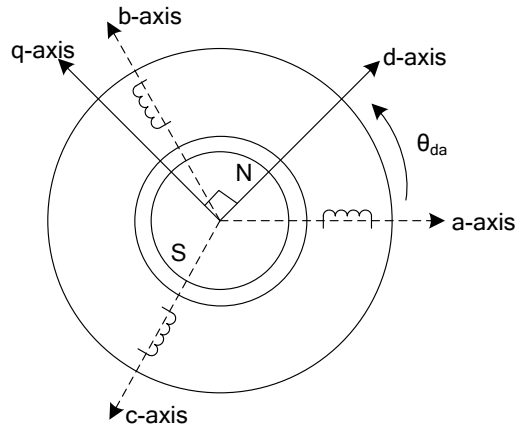

Figure 7.1: Two-pole PMAC Machine
In a 2-pole motor with sinusoidally distributed stator windings, as shown in Fig. 7.1, the current and voltage space vectors are given by (1) and (2) as in reference [1].